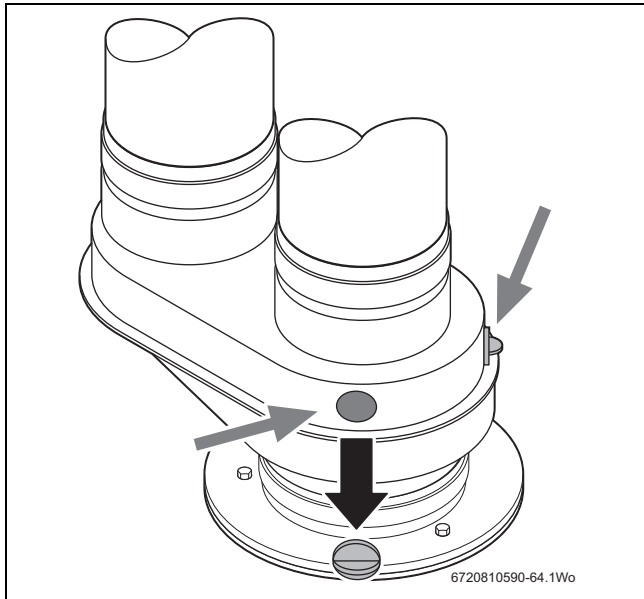

Fig. 79 Open one of the flue gas test ports
- ▶ Open one of the flue gas test ports (→ Fig. 79).